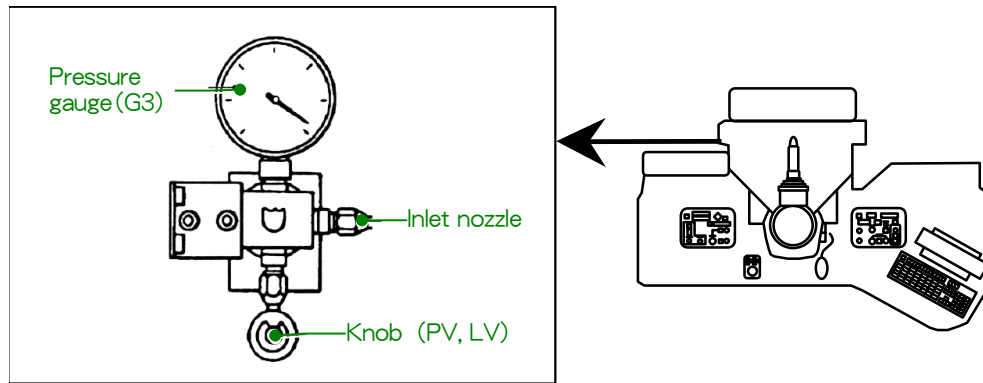
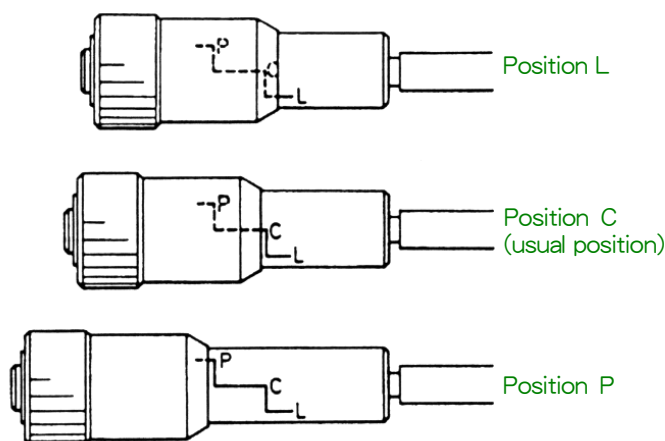

Fig. 6.17 SF₆ gas controller
Fig. 6.19 Gas control knob settings
Replenish the electron gun gas chamber with SF₆ gas when the pressure gauge for electron gun (Fig. 6.17) decreases to 0.3 MPa or less.
- 3. Set the knob to the L position (Fig. 6.19). The gas in the chamber is released.
- 4. Connect the SF₆ gas cylinder to the gas inlet nozzle (Fig. 6.17) with a hose.
- 5. Set the knob to the P position (Fig. 6.19), and turn on the Gas Chamber Pump switch.
- 6. Wait until the pressure gauge (Fig. 6.17) reading reaches 0.1 MPa (760 mmHg). Wait 10 minutes more and set the knob to the C position (Fig. 6.19); then turn off the GAS CHABR PUMP switch.